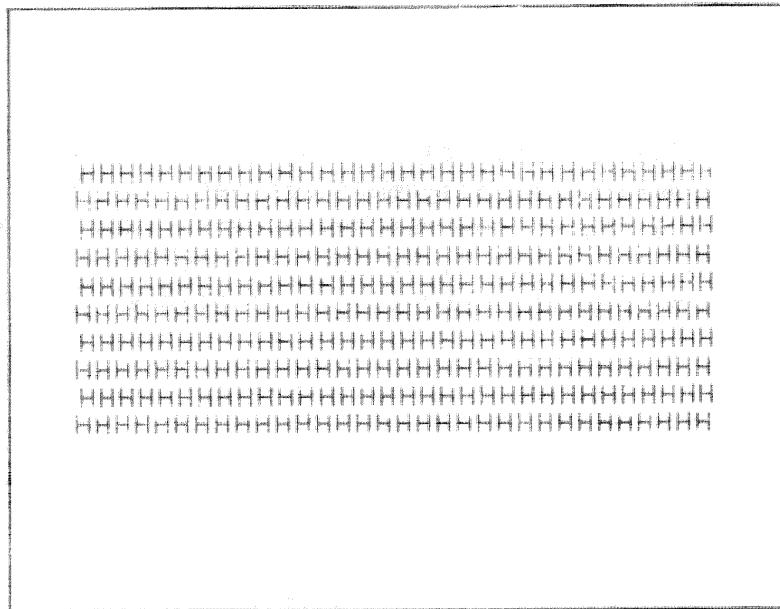

Figure 6-4. Printed Lines Not Correctly Aligned Vertically
**After doing this, check the printout for a vertical misalignment. (See figure 6-4.) If printed lines are not correctly aligned, remove the jumper wire (W37) from the printer PCA if installed, or install one if not.
Note: If any part of the print-head drive mechanism--such as the print-head motor, drive belt, or the setscrew in the coupling--is adjusted or replaced, check the printout for a vertical misalignment after setting the print-head home position. (See figure 6-4.) If printed lines are not now correctly aligned, remove the jumper wire (W37) from the printer PCA if installed, or install one if not. (W37 is located near pins 1 and 40 of the printer controller, U5.)
Note: If adjusting the print-head drive belt does not correct a vertical misalignment between printed lines (see figure 6-4), remove the jumper wire (W37) from the printer PCA if installed, or install one if not. (W37 is located near pins 1 and 40 of the printer controller, U5.)
Note: In step e, the belt will be adjusted until it is too tight; in step f, the belt will be adjusted until it is too loose. In both conditions, there will be an offset between the characters on one line and the characters on the next. (See figure 6-4.) However, if the belt is too loose, it will be visibly slack near the right pulley while the print head is moving from right to left. When the belt is adjusted to the proper tension, the offset from line to line should be no greater than 2/3 the width of a printed dot.